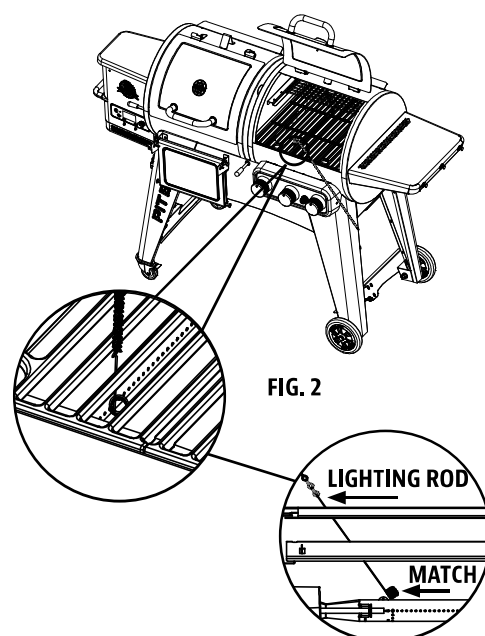

FIG. 2
8. If igniter does not light burner, use a lit match secured with the lighting rod (included with the grill) to light burners. Access the burners through the cooking grid and heat plates. Position lit match near side of burner. **Fig. 2.**